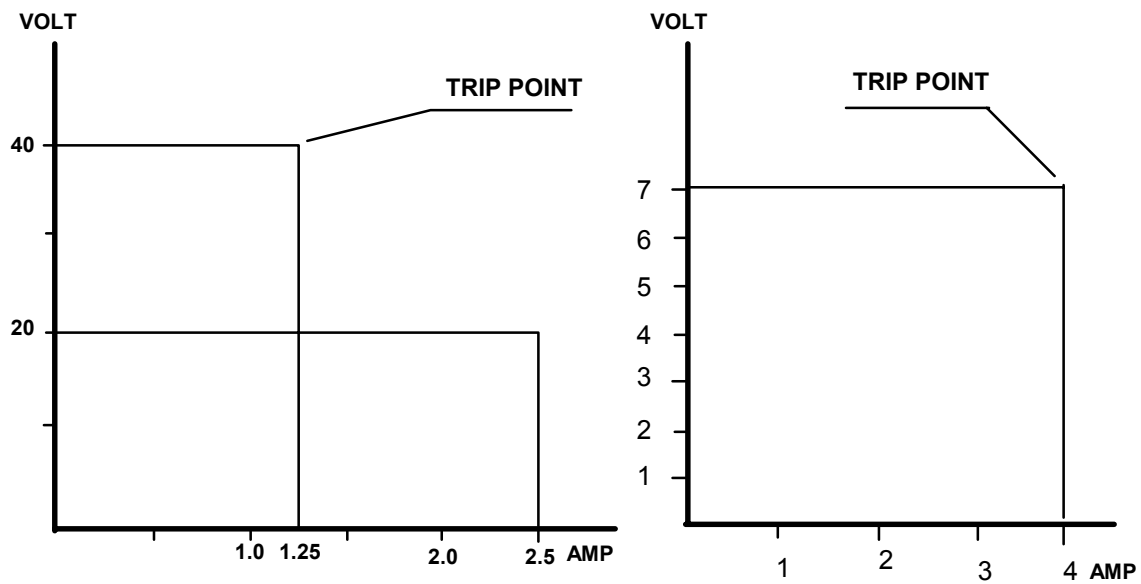

Figure 2
Two LED diodes mounted on the front panel indicates mode of operation - constant voltage (CV) or constant current (CC). When the load current is increased to the constant-current trip point (see figure 2 on next page), the unit automatically transfers to the constant-current mode and the CC LED lights. Below the CC trip point, the unit is working in the CV mode and the CV LED lights. The CC mode also provides protection by limiting load current during overload or short circuit. All outputs have the same constant-current characteristic.